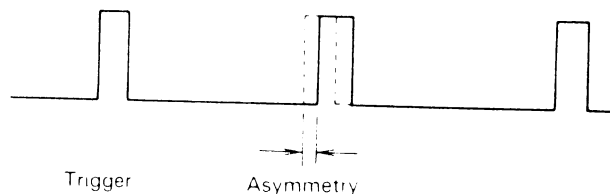

Fig. 303
7. Write a 1F signal on track 39 and measure the split (asymmetry) width of the waveform as shown in Fig. 303.